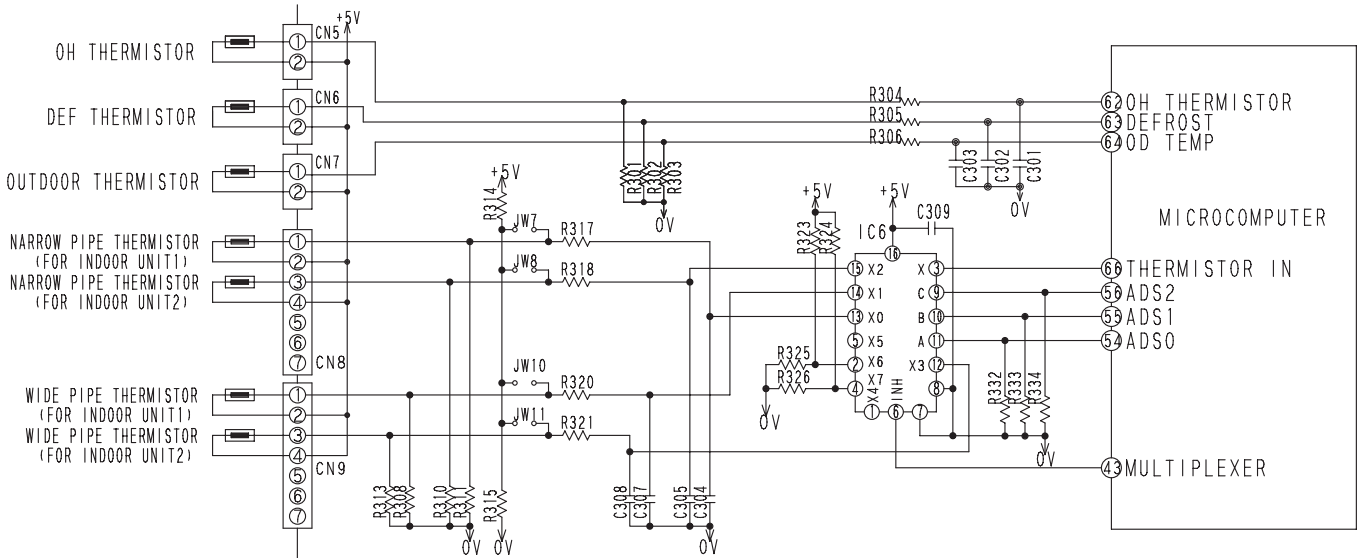
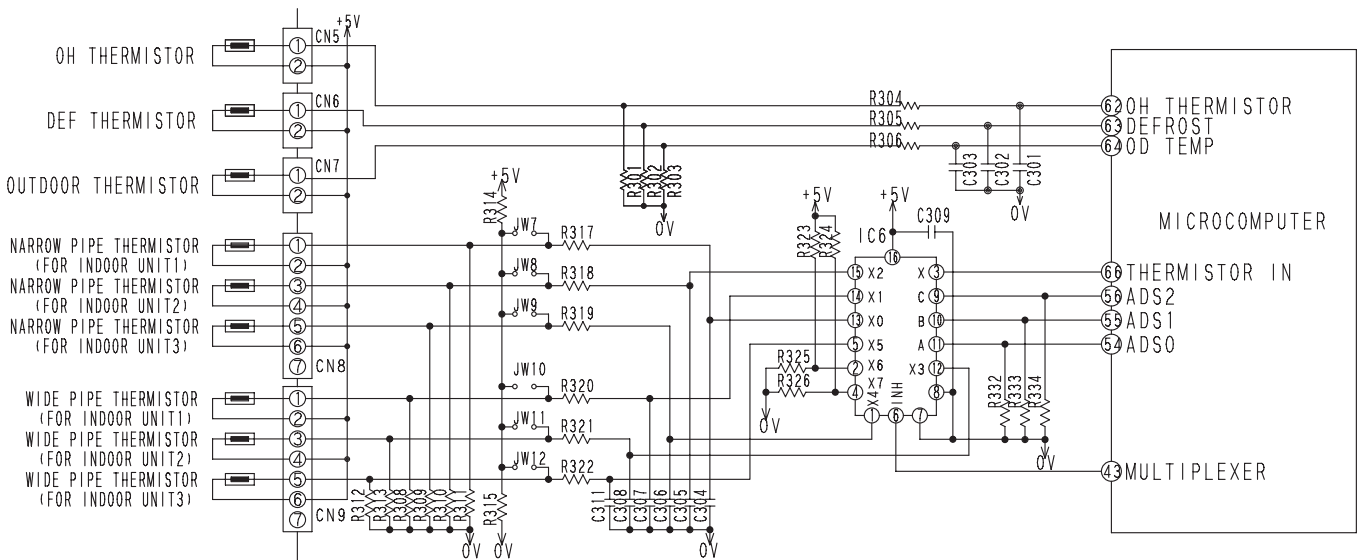

Fig. 10-1 Temperature Detection Circuit
Fig. 10-2 Temperature Detection Circuit
- The circuit of the thermistors is shown as Fig. 10-1 for model RAM-55QH5, Fig. 10-2 for model RAM-65QH5, and their roles and temperature measuring points are shown as Table 10-1.